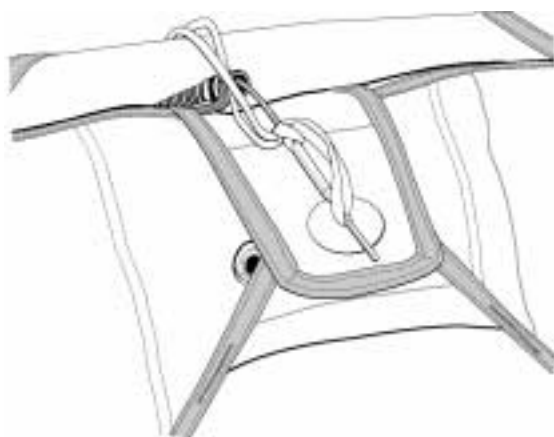

Figure 3. Pull-Up Cord Routing
a. Route a length of Type III pull-up cord around ripcord pin, and secure to ripcord cable with 3 to 4 half-hitches. This will prevent the ripcord pin from being fully removed (Figure 3).